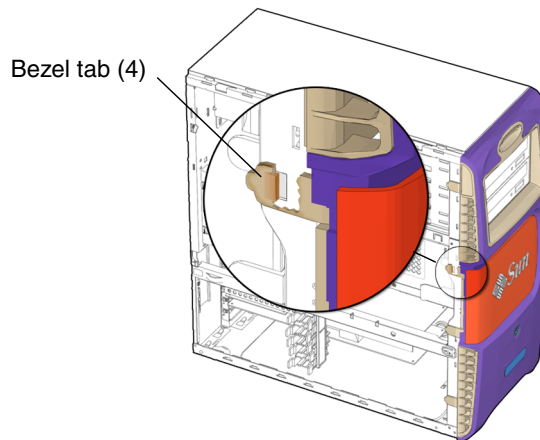

FIGURE 10-11 Releasing the Bezel Mounting Tabs
3. Loosen the four bezel tabs (FIGURE 10-11).